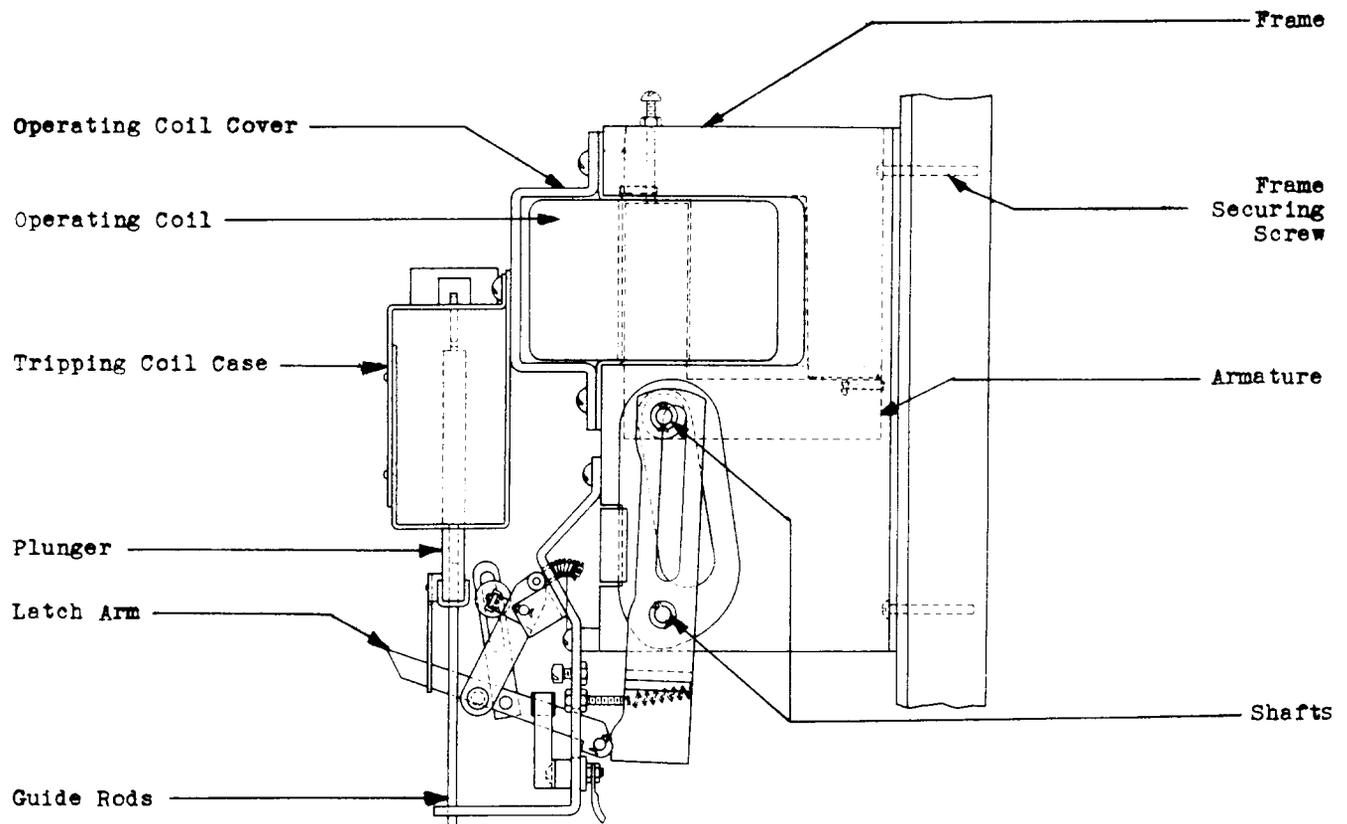

Fig. 6 - Operating, Latch and Tripping Mechanism
(1) Although it is not necessary to remove the contactor switch to replace the operating coil, it is easier to take the switch out to a bench as the switch must be disassembled to lower the operating coil armature sufficiently to replace the coil. Designate the leads and if the switch has a tripping mechanism, remove the tripping coils together with the case and the latch mechanism.
(2) It will be necessary to remove the two shafts in the operating mechanism shown in Fig. 6, but a sketch should first be made of the location of the bearings and washers, noting particularly the sizes of the latter. Take out the shafts and the coil cover and then lower the armature and take out the coil. It will be easier to insert the washers and bearings if the mechanism is placed on its side so that the two shafts will be vertical. Assemble in the reverse order and line up the brushes and check the operation of the switch.